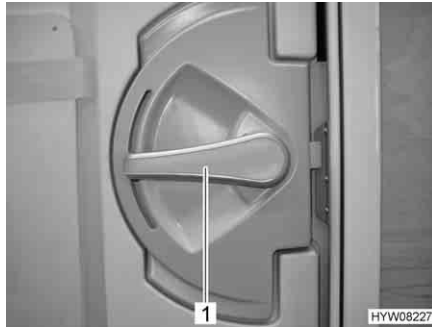

Fig. 27 Door lock of conversion door, inside
- Opening:* ■ Push the handle (Fig. 27,1) down.
- Locking:* ■ Turn the handle (Fig. 27,1) approx. 45° upward and leave it in this position.